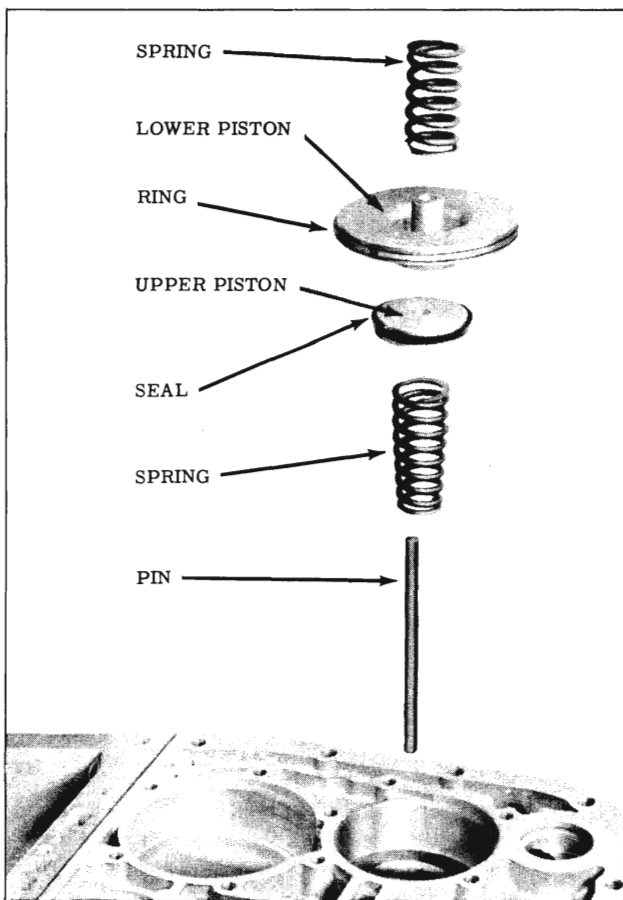

Fig. 3-119 Accumulator Installation
1. Install accumulator pin into case. (Fig. 3-119)